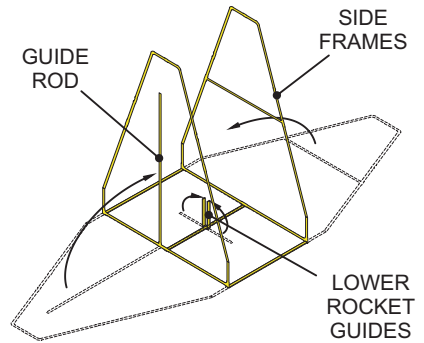
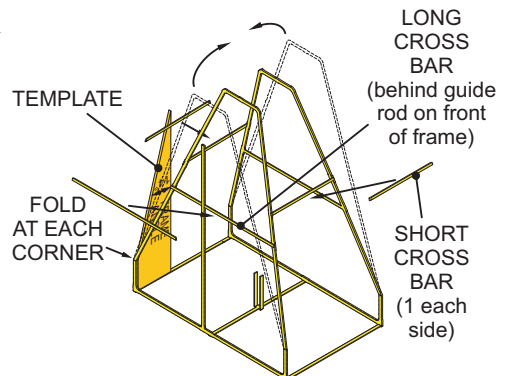

Figure 1
Figure 2
- (1) Fold the two rocket guides up through 90° as shown in Figure 1. (use the template from the etched fret to set them at this angle).
- (2) Fold the two side frames up through 90° .
- (3) Fold the guide rod at the front of the frame up through 90° .
- (4) There is a short vertical section at each corner of the launch frame. Bend the upper section of the front and back of this launch frame using the template as a guide, as shown in Figure 2.
- (5) Attach the long cross bar to the launch frame, behind the guide rod.
- (6) Attach the two short bars to the sides of the launch frame.